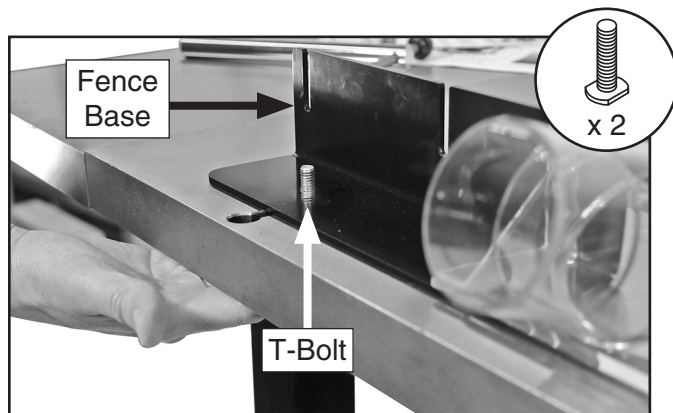

Figure 24. T-bolts inserted through table and fence base.
17. Align (2) holes in fence base with slots in table. Insert (2) $\frac{5}{16}$ "-18 T-bolts (see **Figure 24**) through table and fence base, as shown below.